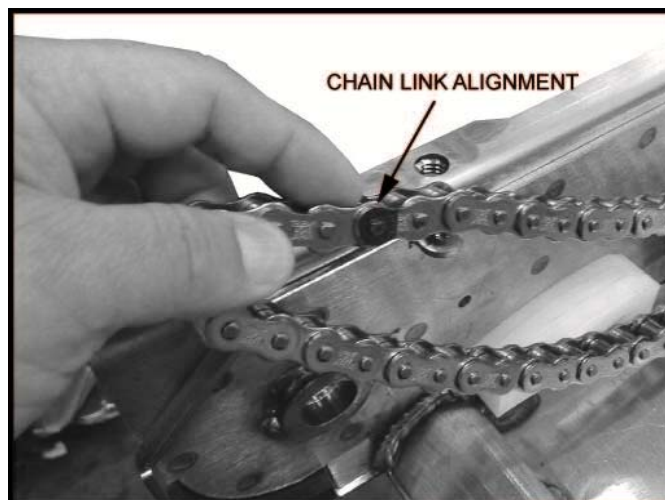

FIGURE 2-13 IDENTIFY LINK ALIGNMENT ON CHAIN (RH SIDE SHOWN)
- e. Refer to **Figure 2-13**. Locate chain link alignment identified on chain assembly.